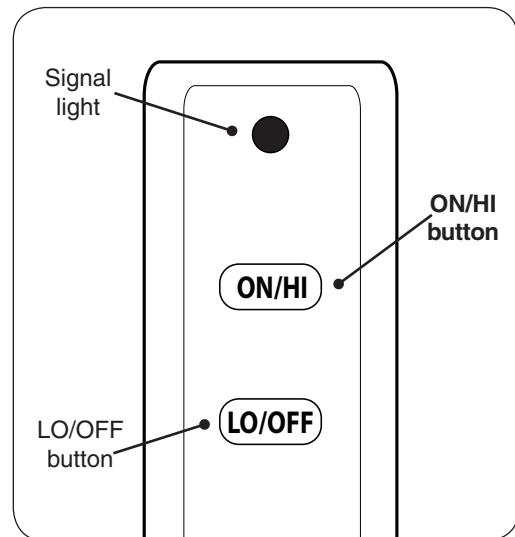

Fig. 21-1 Remote transmitter detail
- Locate the remote transmitter and press and hold the **ON/HI** button (see Fig. 21-1). The ignition sequence will begin.